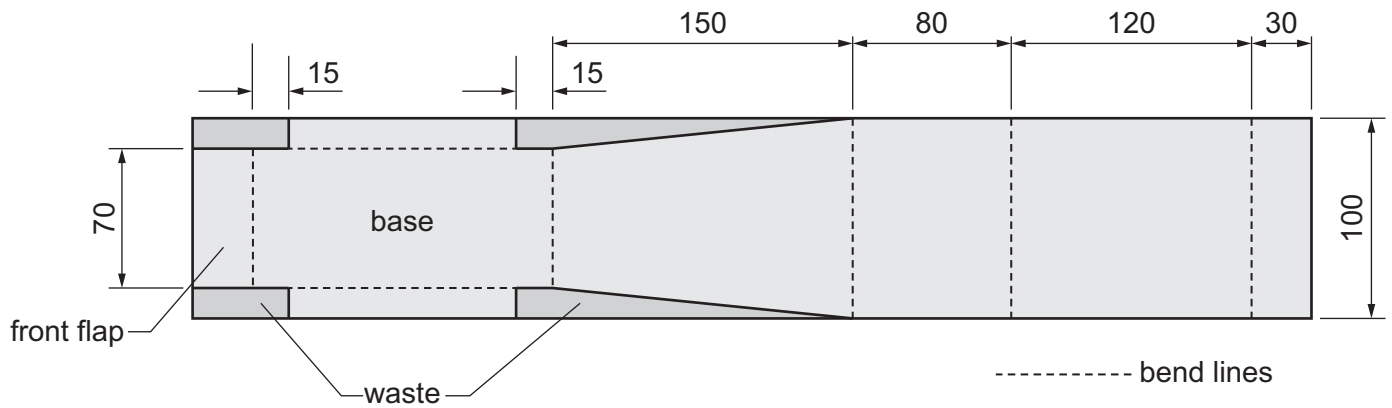

Fig. 12.3
- (c) Fig. 12.3 shows the development (net) of the bird feeder marked out on 1.5 mm thick mild steel sheet.